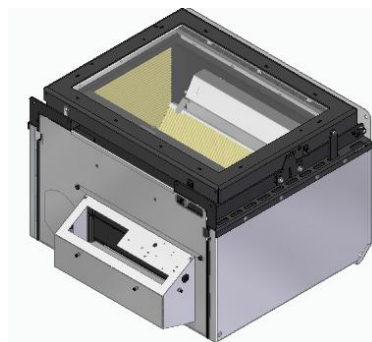

Figure 52 – Optional ventilation kit fixing
b. Fixing the ventilation kit underneath the equipment, on the bottom, as shown in the picture, see Figure 52.